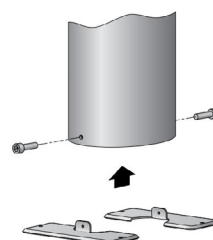

Figure 3
2. Fix ground plate to pole per Figure 3.